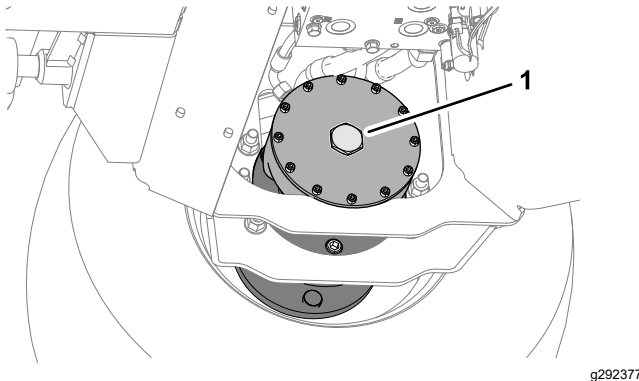

Figure 38
2. Install the hex plug into the motor end plate (Figure 38).
6. Stow the 2 bolts 12 x 40 mm and 2 washers 12 mm stored in the platform support rails (Figure 38).